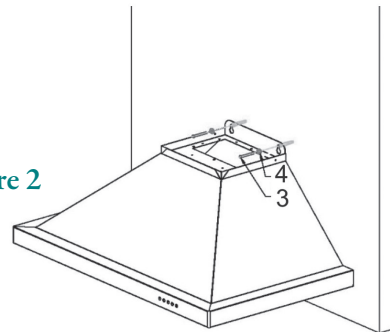

Figure 2
- 3 Mount the main body of the hood to the two screws and screw into place. (Figure 2)